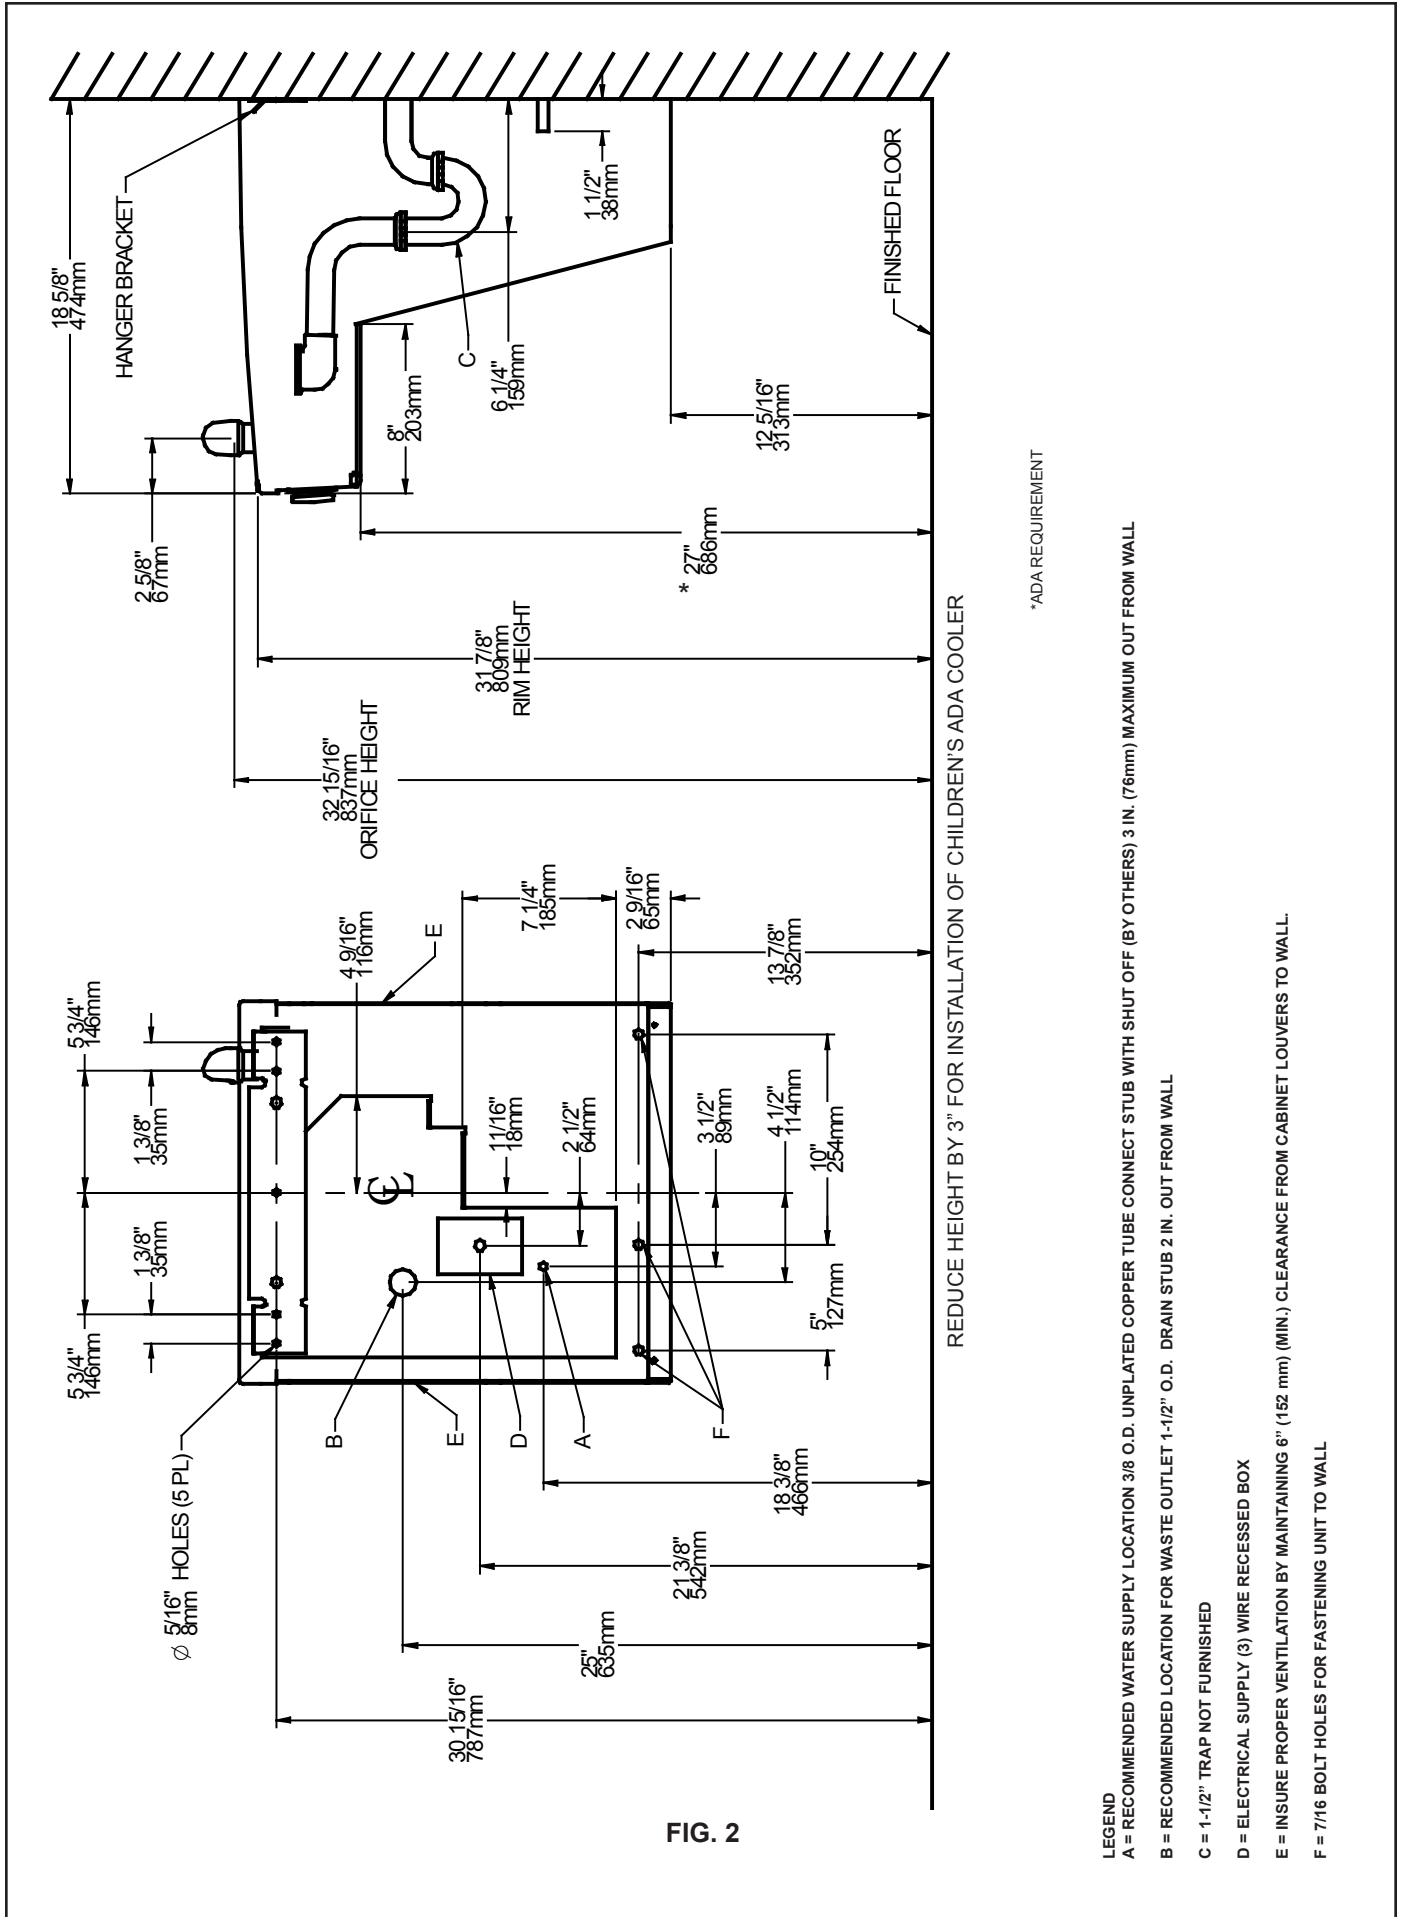

FIG. 2
- 1) Remove hanger bracket fastened to back of cooler by removing one (1) screw.
- 2) Mount the hanger bracket and trap as shown in Figure 2.
- 4) Hang the cooler on the hanger bracket. Be certain the hanger bracket is engaged properly in the slots on the cooler back as shown in Figure 2.
- 5) Loosen the two (2) screws holding the lower front panel at the bottom of cooler base and two (2) screws at the top (**Use torx bits sold separately**). Remove the front panel and set aside.